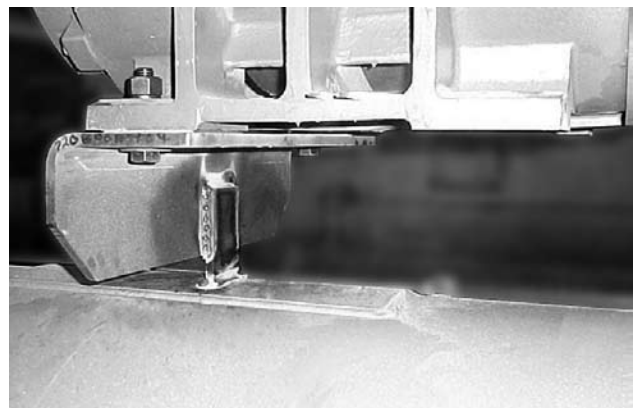

Figure 5 - Motor Mount
3. The motor mounting design must allow for proper positioning of the motor mounting bracket on the package by welding it in place (see Figure 5).
7. Weld motor support bracket to motor support per Figure 5.
8. Weld motor support bracket to separator pad per Figure 5.